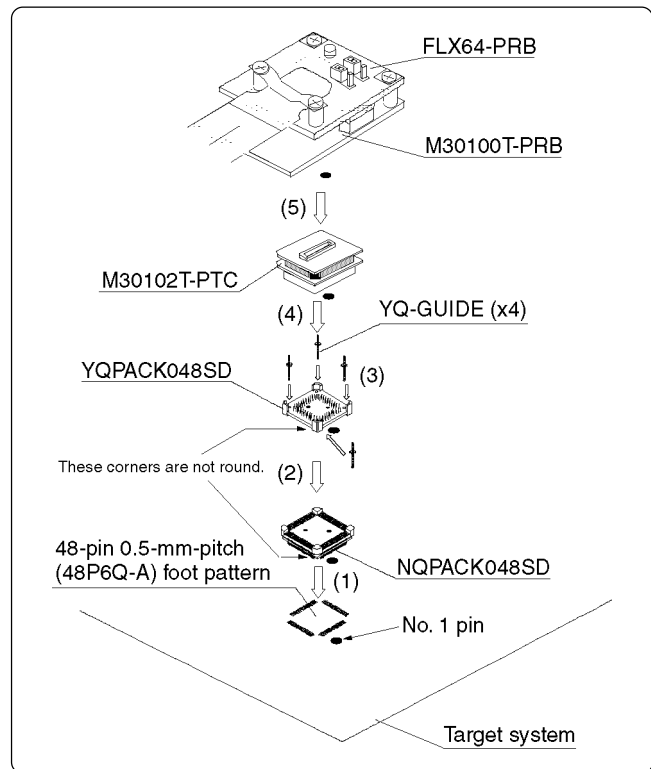

Figure 3 Connection procedure of the M30102T-PTC
5. Connection Procedure (see Figure 3)